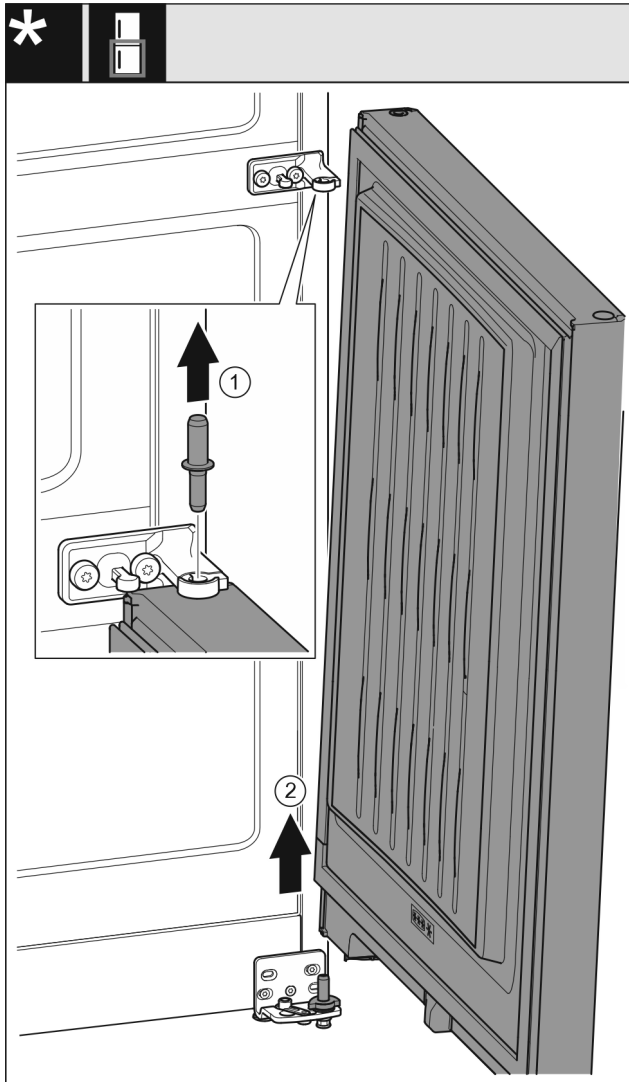

Fig. 7
- ▶ Pull out the bolts upward. Fig. 7 (1)
- ▶ Swing the door out, pull it upward and set it aside. Fig. 7 (2)